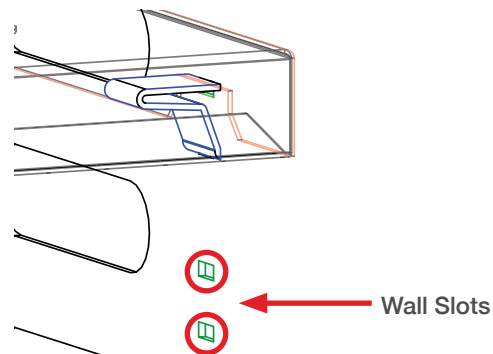
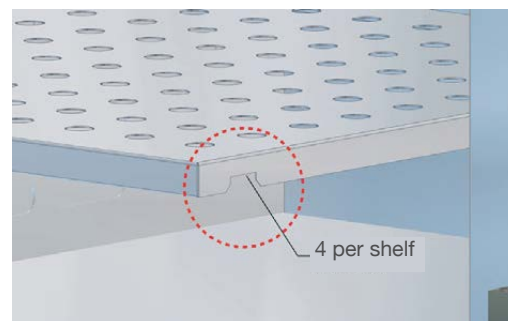

Figure 9: Support Clip Fitted in Notch
Figure 10: Shelf Notch
2. Install the four shelf support clips into the desired location by inserting the top tab into the upper wall slot of that position (Figure 8 - Figure 9). Push up slightly on the inserted top tab and push the bottom half of the clip in until the bottom tab snaps into the lower slot.
4. Install the shelf with the notches on the bottom of the shelf aligned with the shelf supports (Figure 9 - Figure 10).
Note: Shelves are notched at each corner to rest on four shelf support clips that are inserted into the cabinet wall slots (Figure 9).